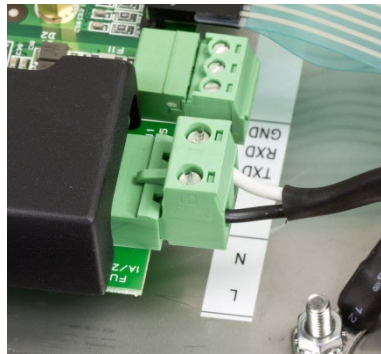

Figure A-6: AC Wire Termination
14. Reconnect the black/brown and white/blue AC power wires to the terminal plug on the main board, in the location indicated in Figure A-6.
A permanently attached line cord supplies the AC power to the AC version of the IND246 terminal. Note that the two AC power connections are marked “L” for line (hot) and “N” for neutral as shown in Figure A-6. A loop terminal is provided on the ground wire for the ground connection.